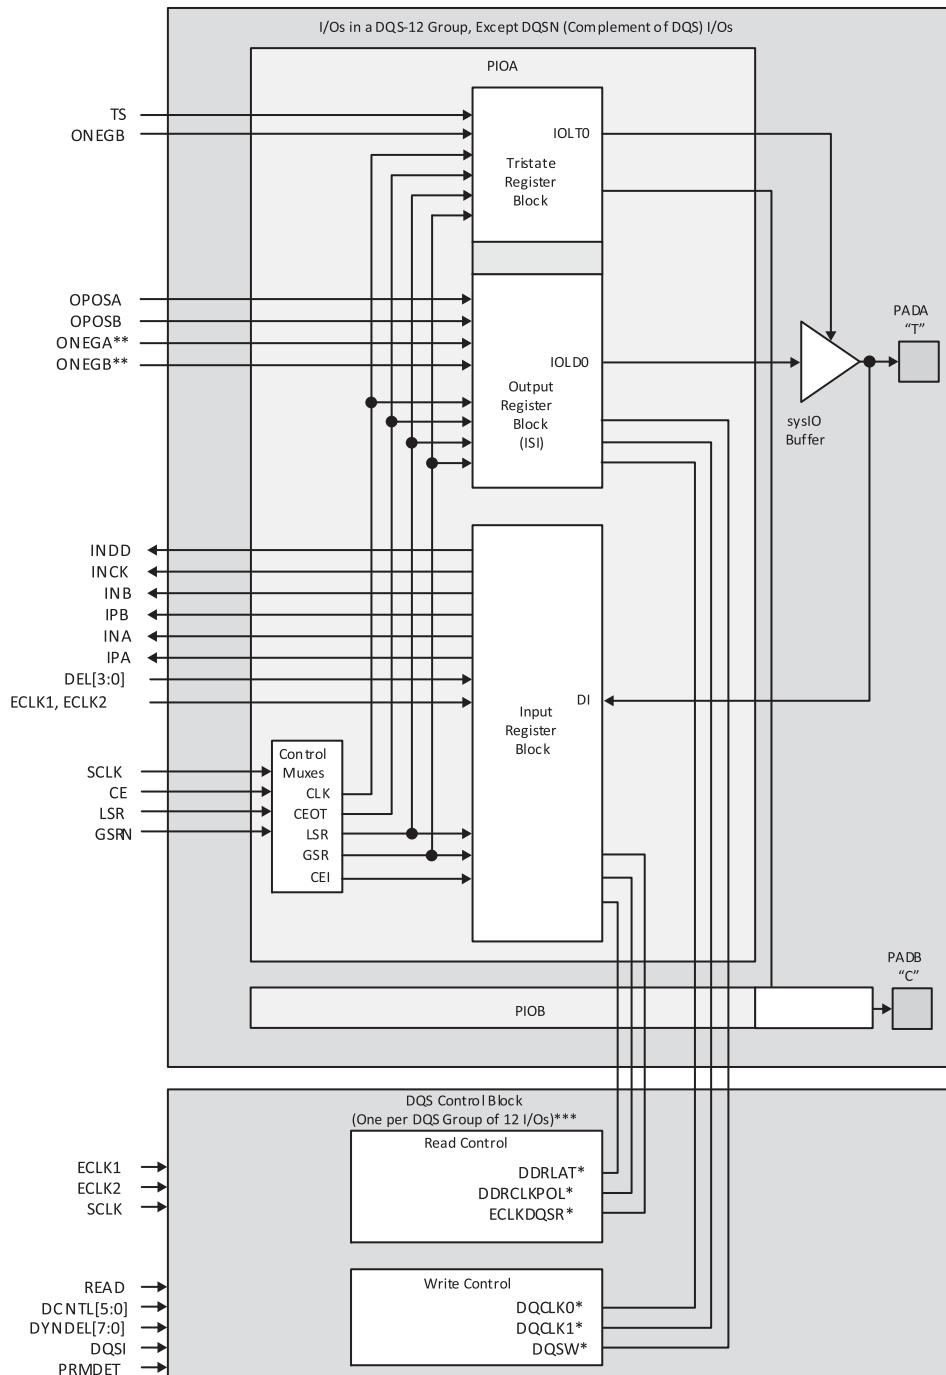

Figure 3.1. PIC Diagram
Each PIC contains two PIOs connected to their respective sysI/O buffers as shown in Figure 3.1. The PIO Block supplies the output data (DO) and the tri-state control signal (TO) to the sysI/O buffer and receives input from the buffer. Table 3.1 provides the PIO signal list.
Two adjacent PIOs can be joined to provide a differential I/O pair (labeled as "T" and "C") as shown in Figure 3.1. The PAD Labels "T" and "C" distinguish the two PIOs. Approximately 50% of the PIO pairs on the left and right edges of the device can be configured as true LVDS outputs. All I/O pairs can operate as LVDS inputs.